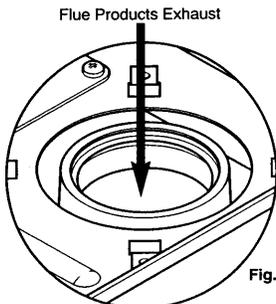

Fig. 25a
**NOTE: To ensure the correct operation and integrity of the condensate drainage system - Carefully pour approximately 1 litre of water into the flue products exhaust, at the top of the heat exchanger (Fig. 25a).**